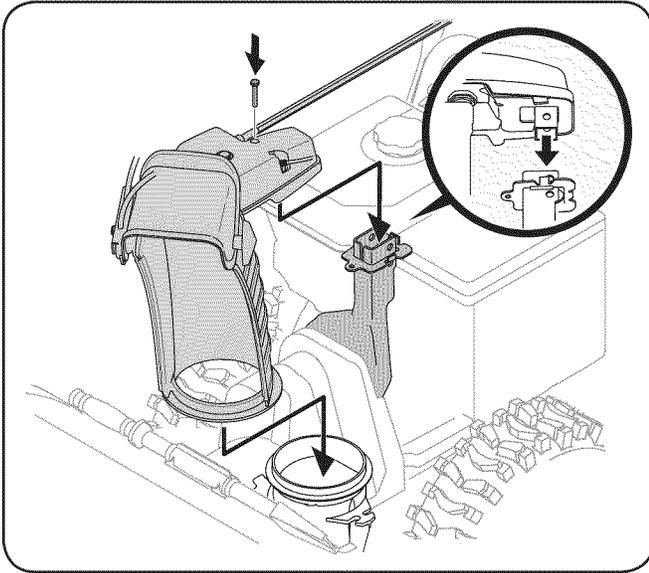

Figure 3-5
- Place chute onto chute base and ensure hex rod is positioned under the handle panel. Install hex bolt previously removed but do not secure with wing nut at this time. See Fig. 3-5.